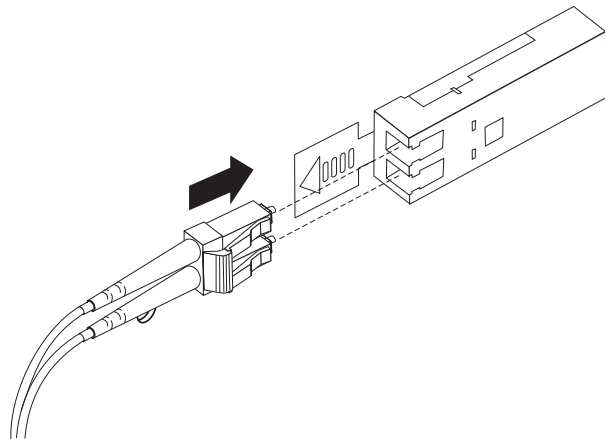

Figure 29. Inserting an LC-LC fibre-channel cable into an SFP module
4. Carefully insert this end of the LC-LC cable into an SFP module that is installed in the FAStT EXP100. The cable connector is keyed to ensure it is inserted into the SFP module correctly. Holding the connector, push in the cable until it clicks into place, as shown in Figure 29.